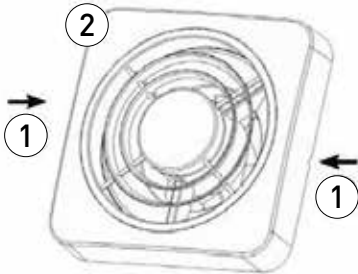

Figure 8
1. Unhook the cover (2) from the motor support by pressing on the side holes (1) using a small screwdriver (Figure 8).